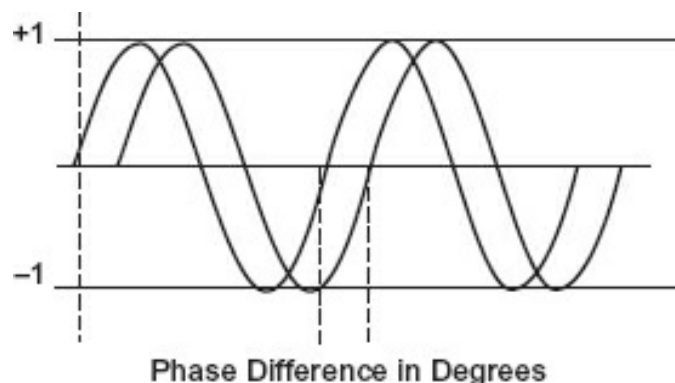

Figure 2-7. Phase difference.
- **Phase difference** – The number of degrees two signals of the same frequency are separated. This is illustrated in Figure 2-7. Which one is leading the other and one is lagging depends on which one is the reference.